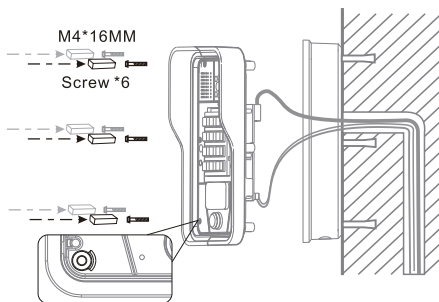

Figure 8
- A. After locking the 6 screws into the corresponding position of the plastic housing, the 6 conductive sponges is loaded into a screw hole. As shown in Fig. 8, the rear shell is locked.
- B. Push the front panel into the plastic frame, and tighten it with 6 screws as diagram (9).